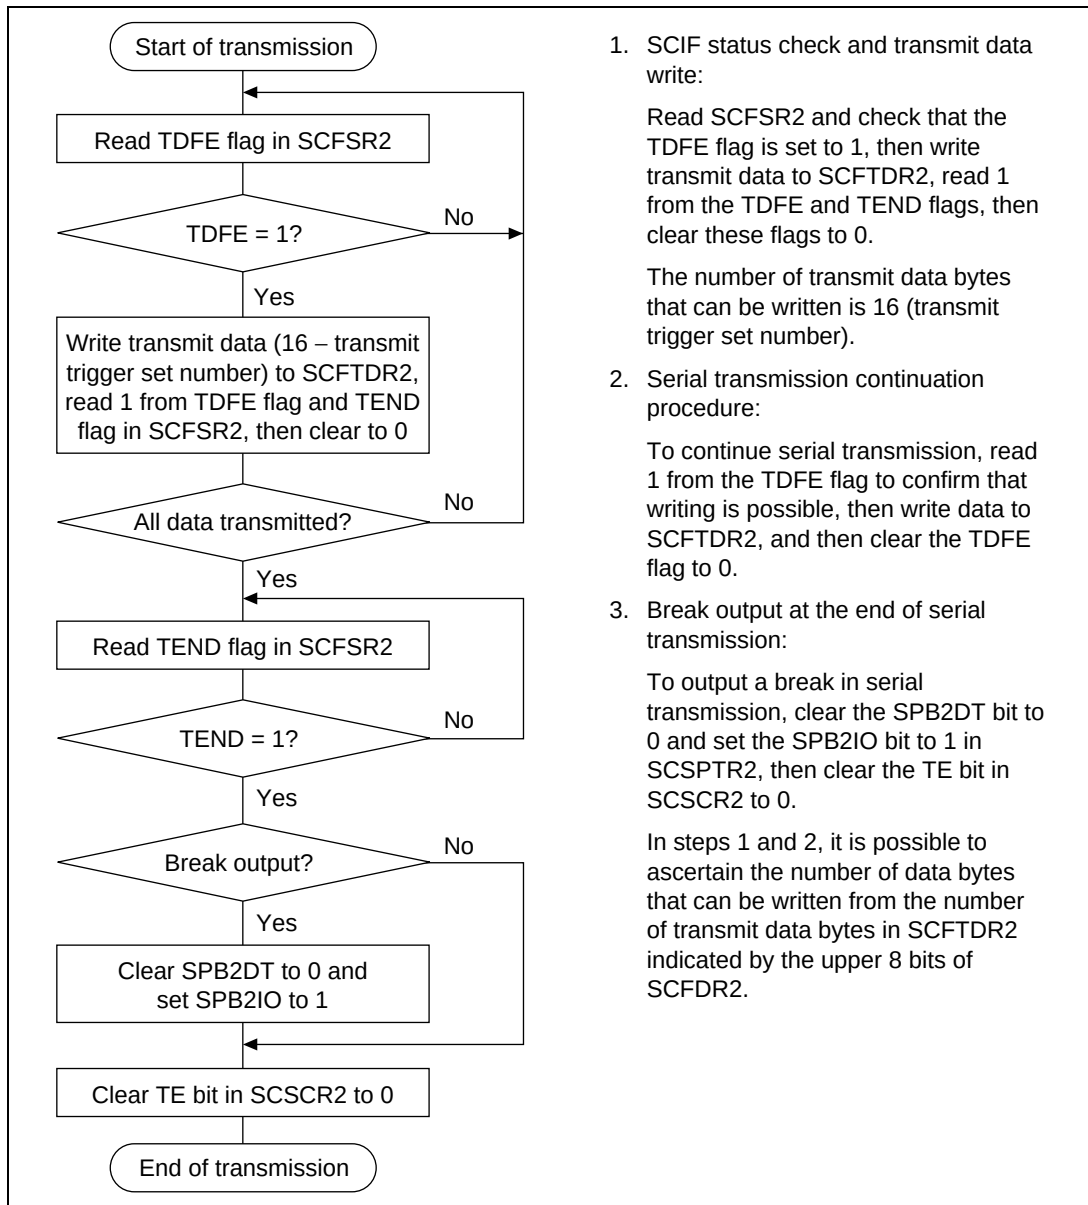

**Figure 16.8 Sample Serial Transmission Flowchart**
**Serial Data Transmission:** Figure 16.8 shows a sample flowchart for serial transmission.